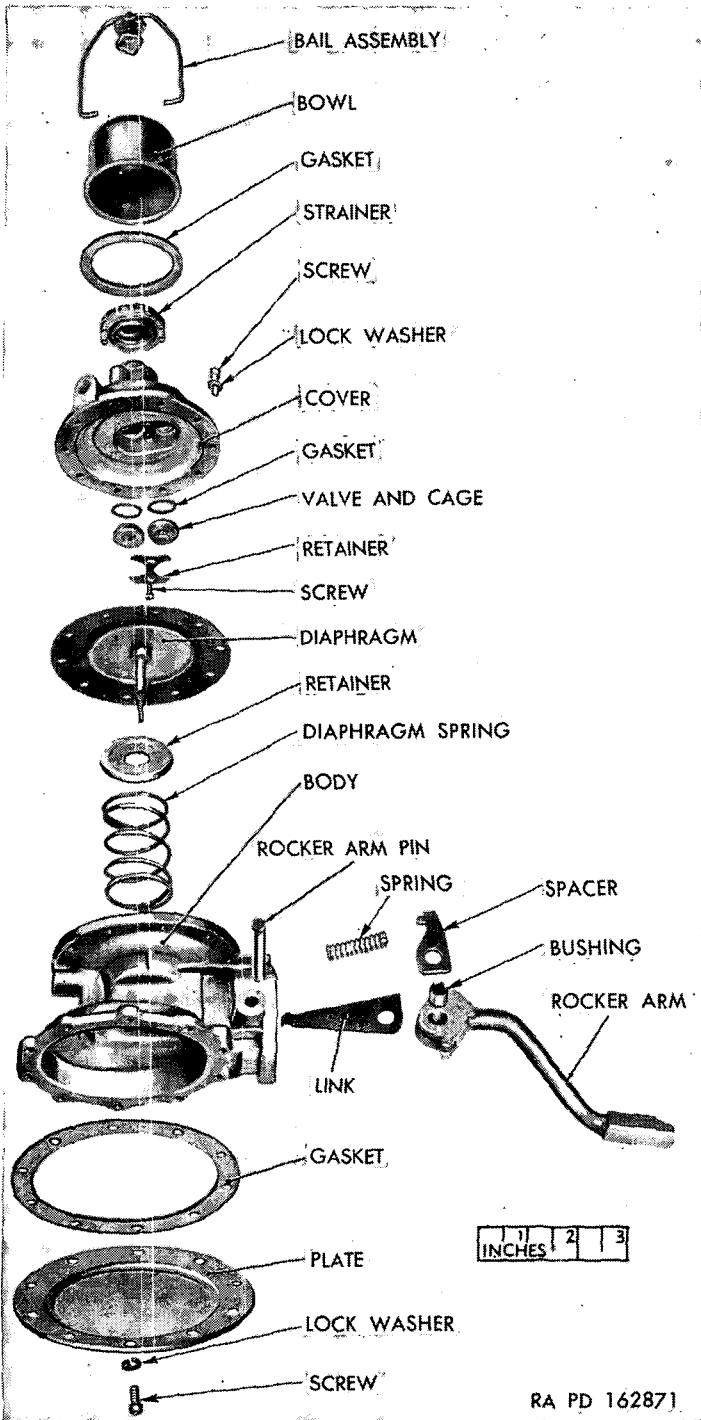

Figure 45. Fuel pump—disassembled (typical series BE construction).
(fig. 45)
a. Assemble Body (fig. 45).
- (1) Assemble link spacer (also serves as arm spring stop) over link. Place one spacer washer on each side of link spacer. Slide assembly between lobes of rocker arm and retain in position with rocker arm bushing. Place rocker arm and link assembly in body with link hook pointing away from fuel diaphragm flange. Aline rocker arm bushing with hole in pump body, drive in the rocker arm pin, and spread end of pin.
- (2) Soak diaphragm in clean kerosene. Fuel oil may be used but do not use shellac or sealing compound. Place diaphragm spring over pull rod well and place spring retainer on spring. Slide the pull rod of the diaphragm assembly through retainer and spring. Hold pump body upside down and press diaphragm against spring. At the same time, tilt the diaphragm so pull rod angles away from link hook. Bring diaphragm back to level so that link engages pull rod.
- (3) Assemble gasket and cover plate on side of body opposite fuel diaphragm, and retain cover plate with 10 screws.